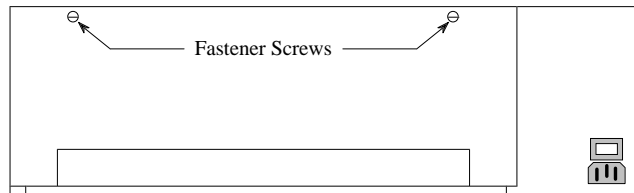

Figure 12 - Fastener Screw Location In Earlier VAX
2. Loosen the two fastener screws holding the back panel to the chassis (see Figure 12).